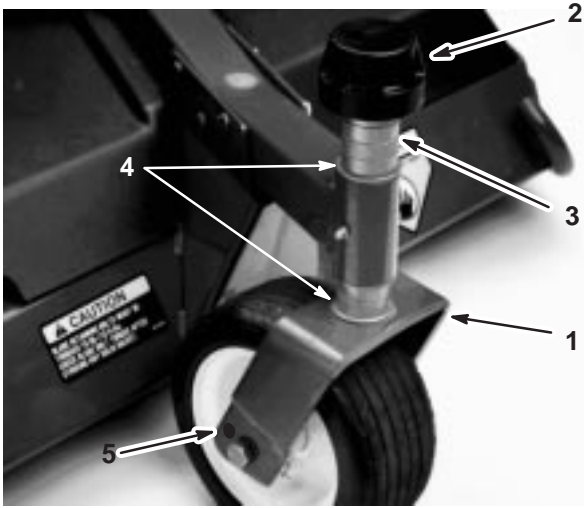

Figure 19
2. Drill out the 7/16 in. diameter holes (Fig. 19 and 20) in each side of the castor forks to 1/2 in. or 33/64 in. diameter.
1. Remove the tensioning cap from the spindle shaft and slide the spindle out of the front castor arm (Fig. 19). Remove the washer from the spindle shaft. Slide the spacers onto the spindle shaft to get the desired height-of-cut, then slide the washer onto the shaft.